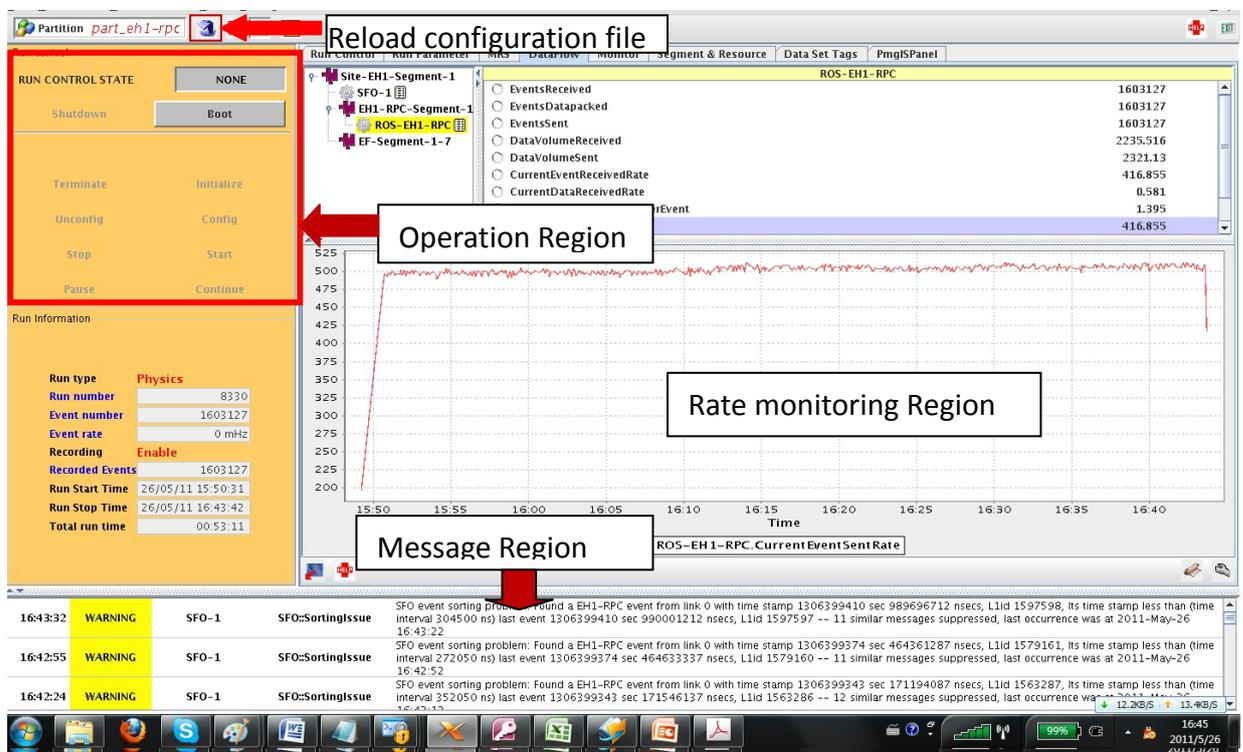

Fig. 25 DAQ interface
setup_daq part_eh1-rpc.data.xml part_eh1-rpc (now, you will see Fig. 25.)
4) Before reloading, you need make sure DAQ is running at the state of "initialize" or "boot". (Because new parameters can only be reloaded at states before "config". See Fig. 25.)
5) Click the "Reloading database" button shown in Fig. 25 to reload the configuration file.